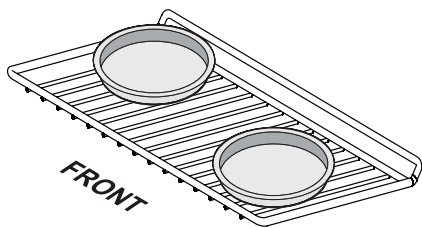

Figure 15: Baking with a single rack
- When baking using one oven rack, position bakeware as shown in Figure 15. Allow at least 2 inches (5 cm) of space between bakeware for proper air circulation.